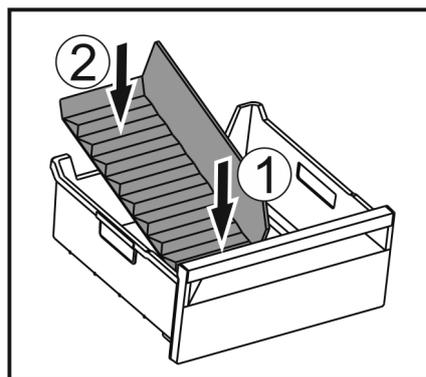

Fig. 100
- ▶ Insert the front part of the ice compartment divider. Fig. 100 (1)
- ▶ Lower the rear part of the ice compartment divider to the drawer bottom. Fig. 100 (2)